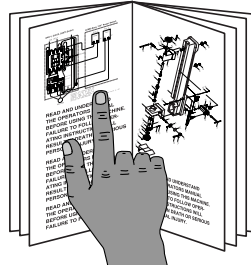

Figure 5. Loosening the exhaust cap screw.
1. Use the 4mm hex wrench to loosen the exhaust cover cap screw as shown in **Figure 5**.